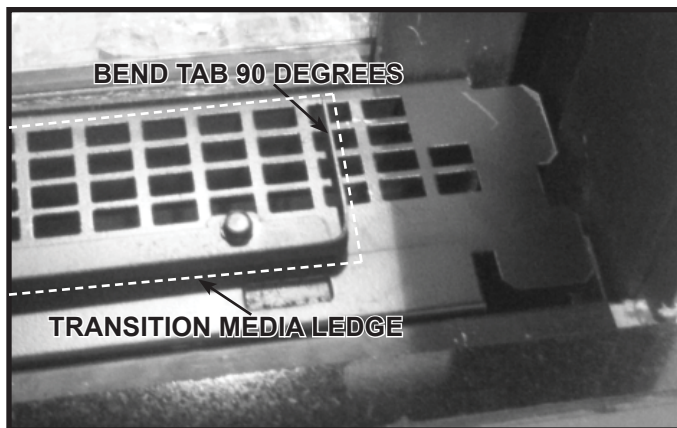

Figure 10.30 Transition Media Tray Installed
12. Bend the tabs on each end of the transition media ledge. This will allow for granite clearance. See Figure 10.30.